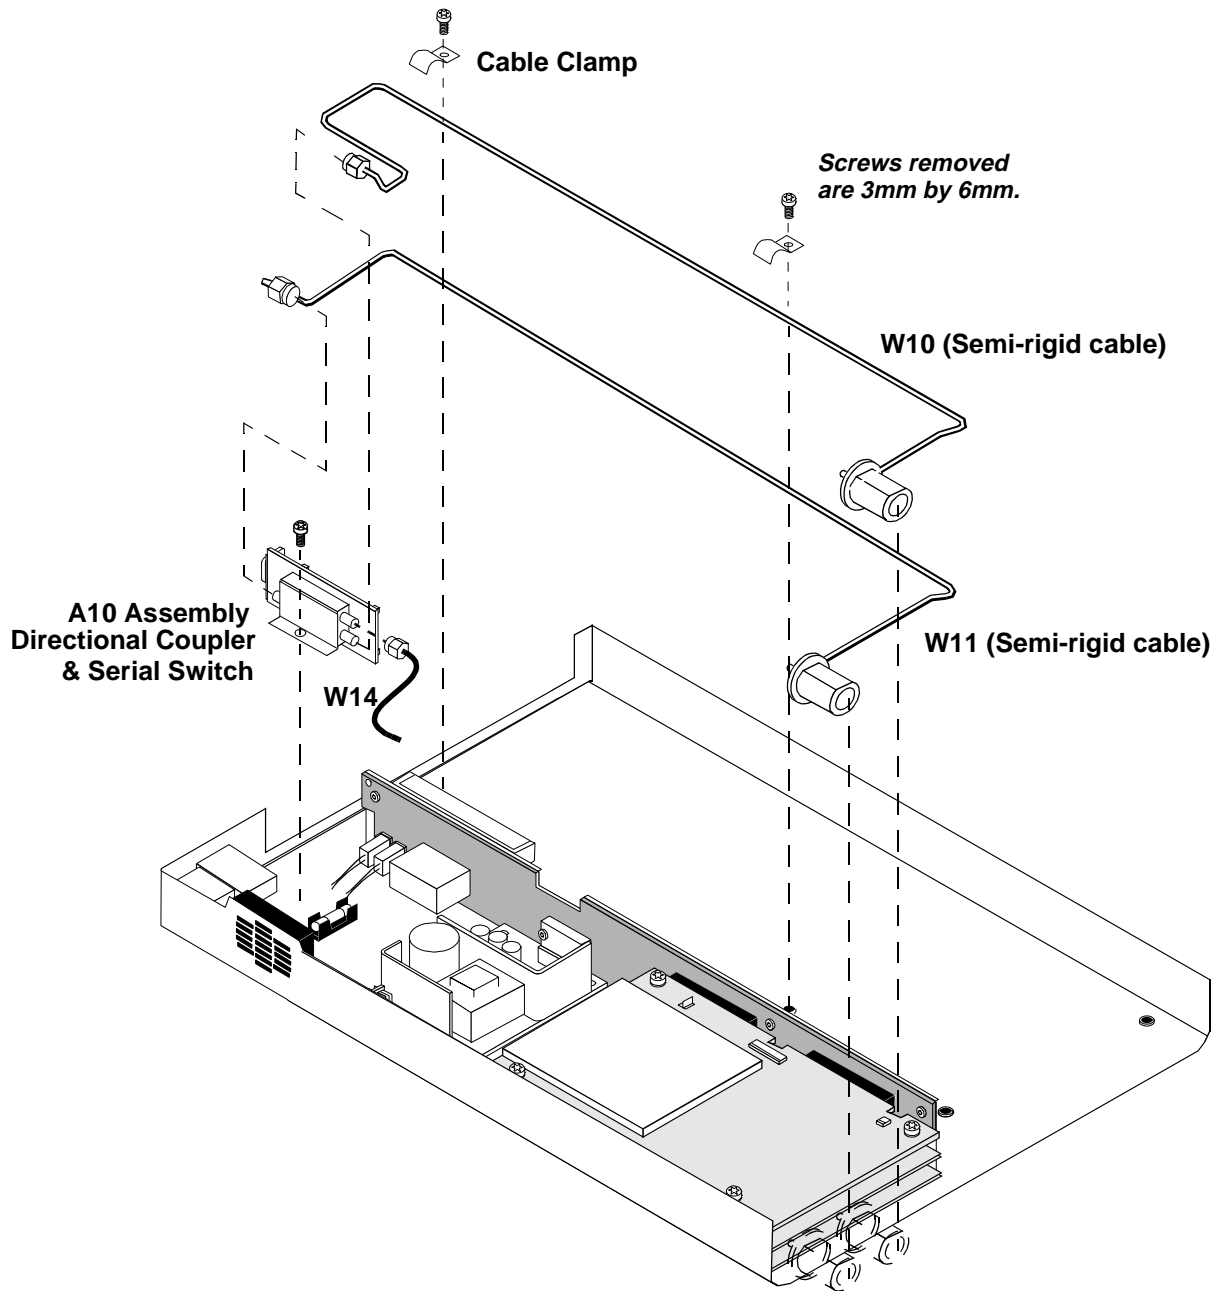
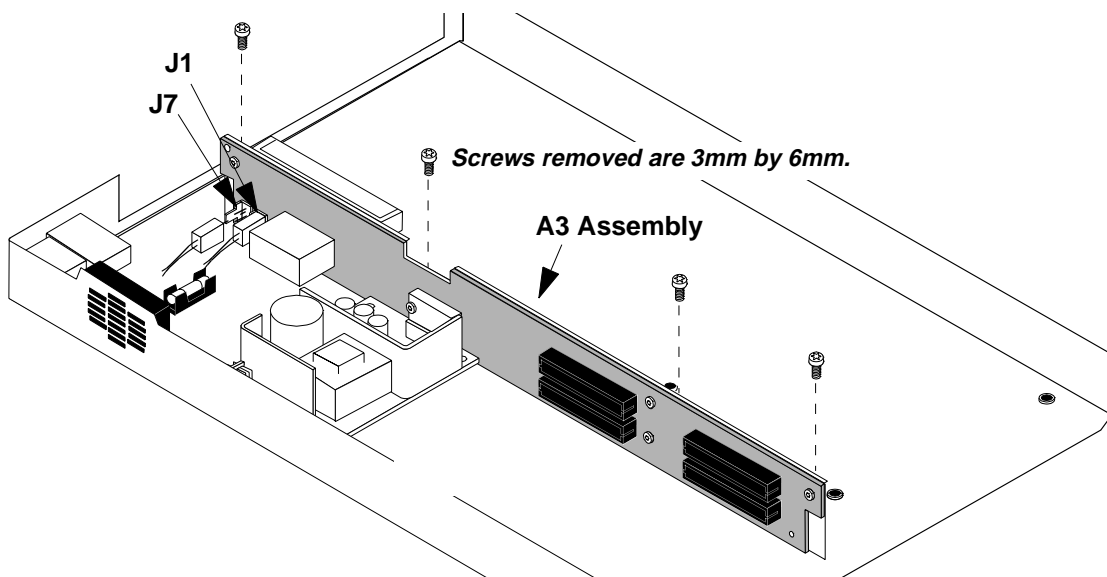

Figure 29
Figure 33
6. To remove the semi-rigid cables, remove the cable clamps securing W10 and W11 semi-rigid cables to the chassis, see figure 29 on page 79.
8. To remove the A10 assembly, remove the screw securing the A10 assembly to the deck, see figure 29 on page 79.
8. Remove the power connectors from the J7 and J1 connectors on the A3 assembly, see figure 33.
9. If the Cellular Adapter is an Option 001, remove the 4 screws securing the A3 assembly to the deck, see figure 33. If the Cellular Adapter is an Option 002 or 003, two of the screws secure the CDPD semi-rigid cables to the deck, see figure 29 on page 79.